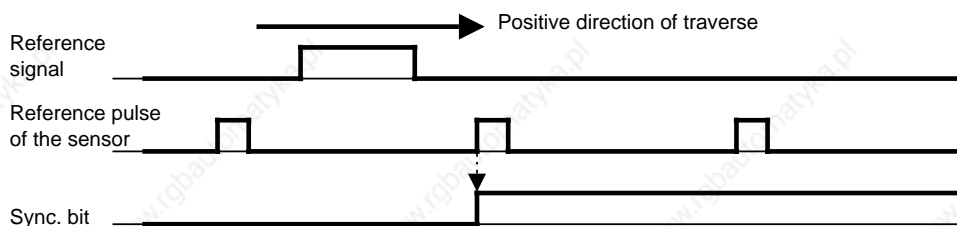

Figure 15-18. Position of the Reference Point (SYNC Bit 0 --> 1) after the Reference Signal
- If the reference signal changes from "1" to "0" before the reference pulse is reached, the module is only synchronized if a positive traversing path is recognized after the falling edge of the reference signal (see figure 15.18).